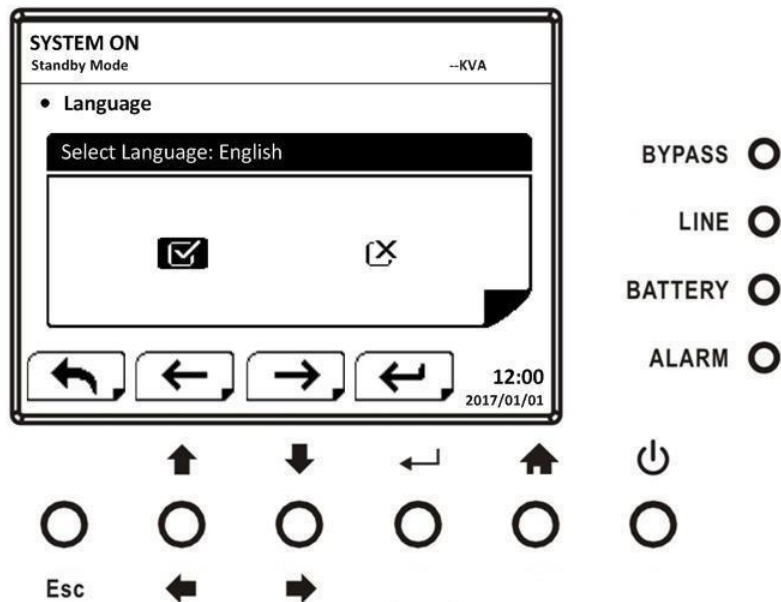

Figure 5-17 SETUP Confirmation screen
Use “” or “” buttons to choose the setting options for setting requirement, then press “” button. The confirmation screen will pop up. Use “” or “” button to choose “V” (YES) or “X” (NO). Choose “V” and press “ ” button to confirm setting or choose “X” to cancel the setting, as shown in Figure 5-17.